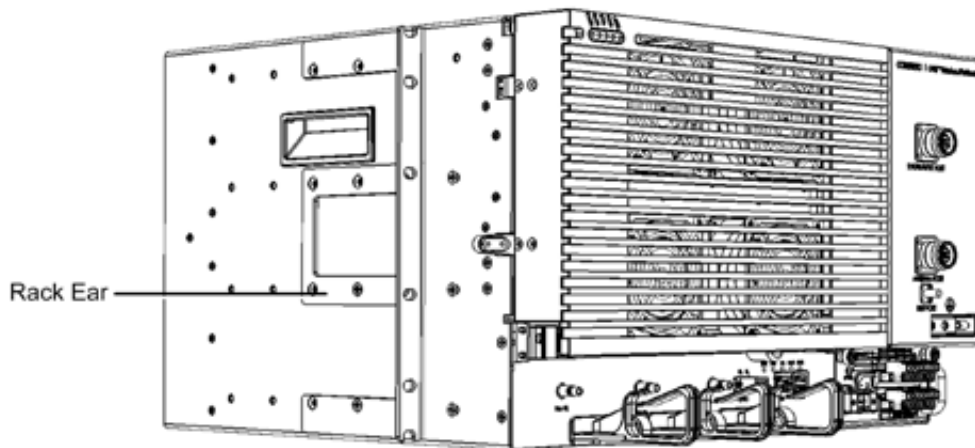

Figure 6-12. Required Position of MRU Rack Ears
- Remove each rack ear and reassemble according to position shown in Figure 6-12.